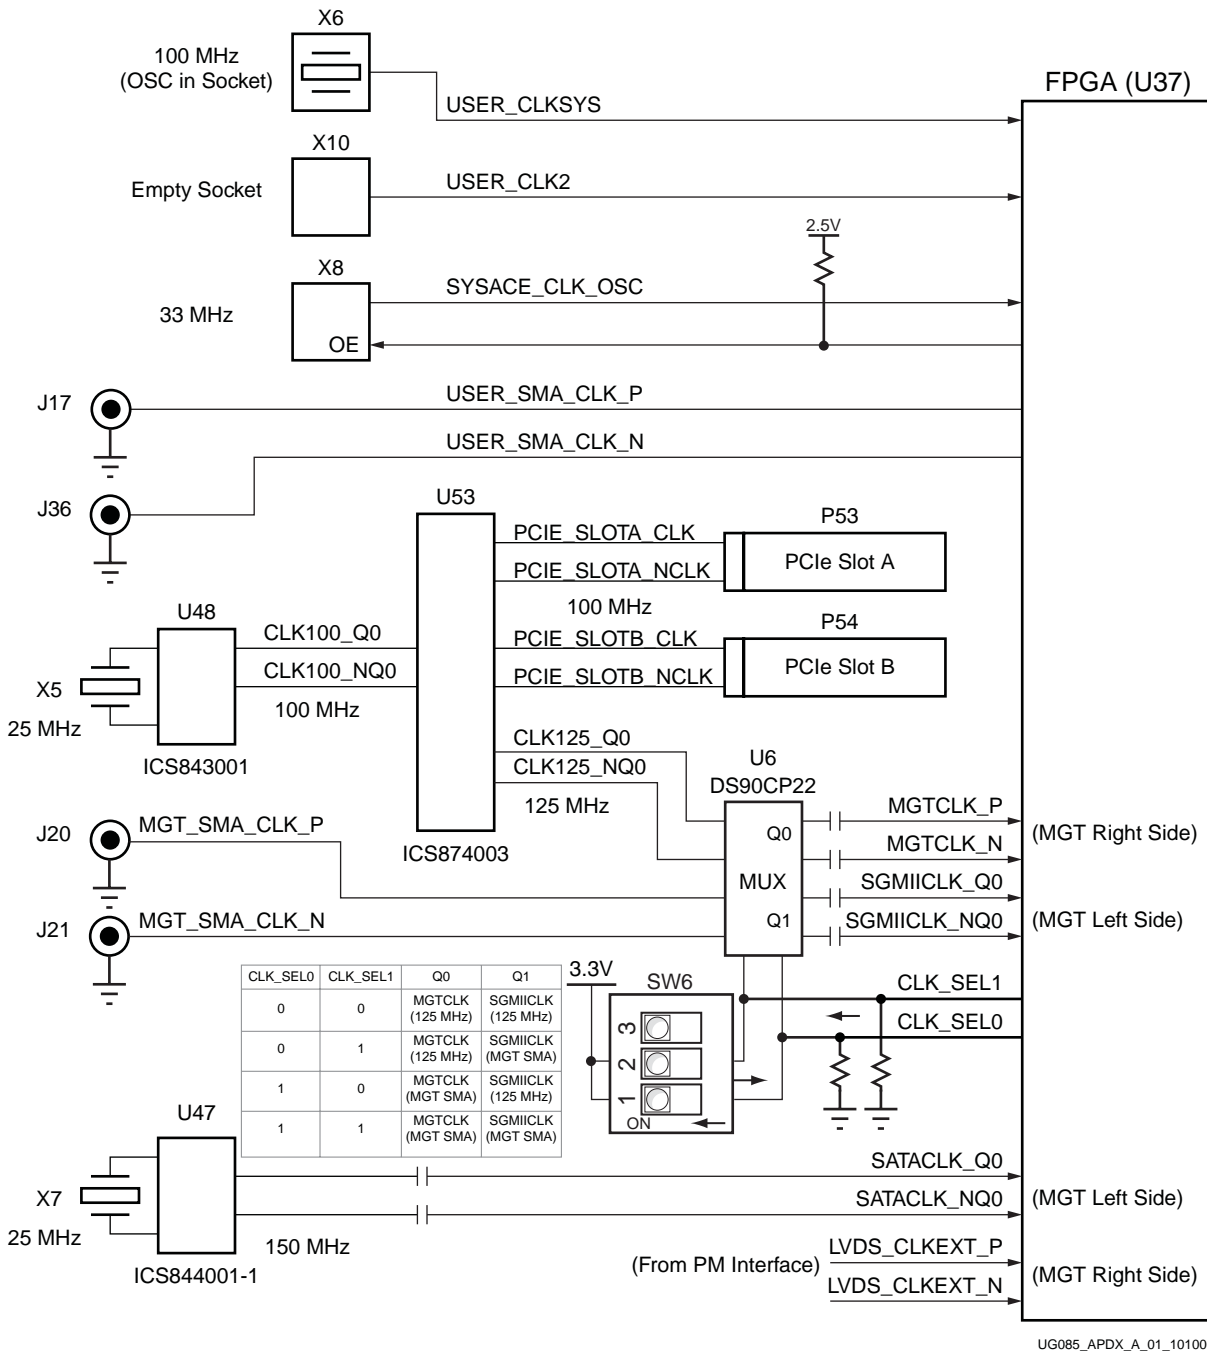

Figure A-1: Clock Distribution for Revisions C and D
- See Virtex-4 Errata regarding FX GT11 jitter and AR23392 regarding Virtex-4 FX GT11 jitter errata for SGMII. Refer to Figure A-1, page 100 for more details regarding clock distribution on Rev. C and Rev. D boards.
- See Virtex-4 Errata regarding FX GT11 jitter. Refer to Figure A-1, page 100 for more details regarding clock distribution on Rev. C and Rev. D boards.
The MGT and SATA clock generation and distribution for earlier board revisions (Figure A-1) differs from revision E (Figure 2-3, page 29).
5. These clocks are differential pairs through the RocketIO transceivers and are not available on ML410-P boards. See Figure A-1, page 100.